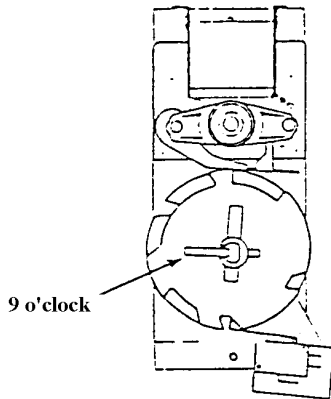

Fig. 7
4. Install the Vending Cam on the front shaft of the Motor making sure the Lock Tab is at the 9 o'clock position. See Fig 7.